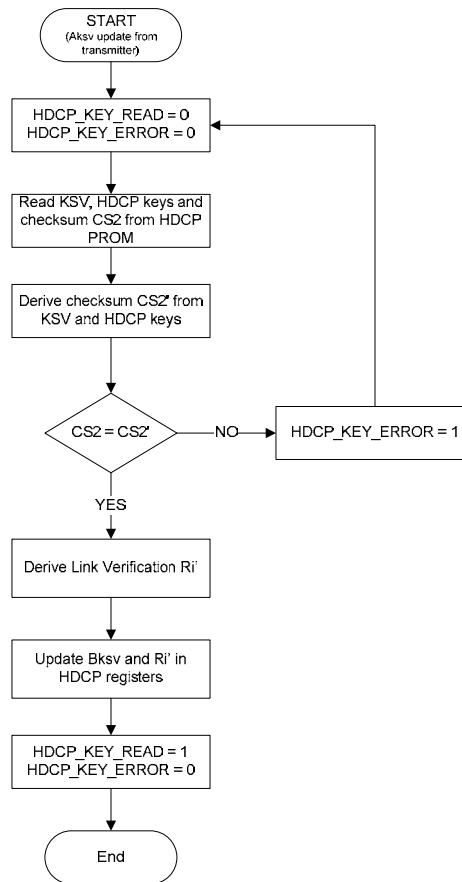

Figure 76: HDCP ROM Access After KSV Update from the Transmitter
- After a KSV update from an HDCP transmitter, the ADV7842 reads the KSV and all keys in order to carry out the link verification response (refer to Figure 76).